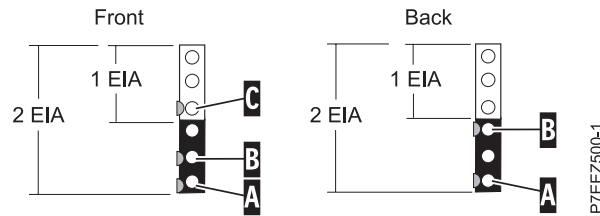

Figure 2. Marking holes on the front and rear of the rack frame
1. Facing the front of the rack and working from the right side, locate the bottom EIA unit that your system will use. Make a note of the EIA location. Use tape, a marker, or a pencil to mark the bottom hole of this EIA unit as **A**. Mark the rack so the mark can also be seen from the rear of the rack, as shown in Figure 2 on page 5.
2. Beginning with the hole identified by mark **A**, count up one hole and place a second mark as **B**. Mark the rack so the mark can also be seen from the rear of the rack, as shown in Figure 2.
3. Beginning with the hole identified by mark **B**, count up two holes and place a third mark as **C**, as shown in Figure 2.
7. Beginning with the hole identified by mark **A**, count up two holes and place a second mark as **B**, as shown in Figure 2.